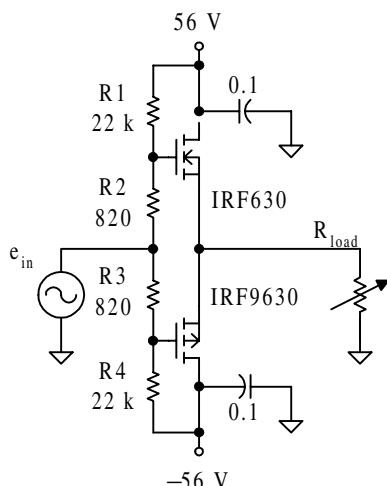

Figure 5-31 Class B push-pull amplifier
1. Build the circuit in Figure 5-31. Neatness counts. Carefully follow the steps from Chapter 2.